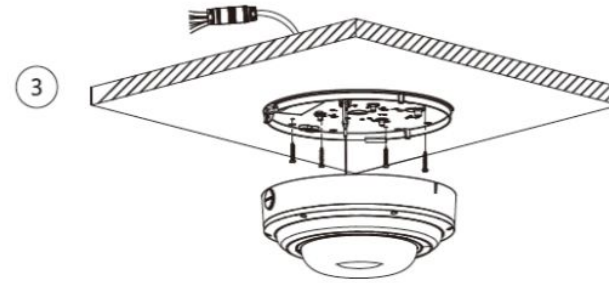

Figure 2-3
Step 3 Pull the cables through (if applicable) and install the camera base screws to the mount. See Figure 2-3.